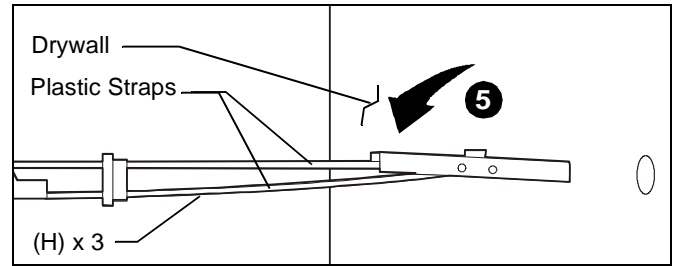

Figure 6
5. Hold metal channel on anchor (H) flat alongside plastic straps and slide channel through hole. (See Figure 6)